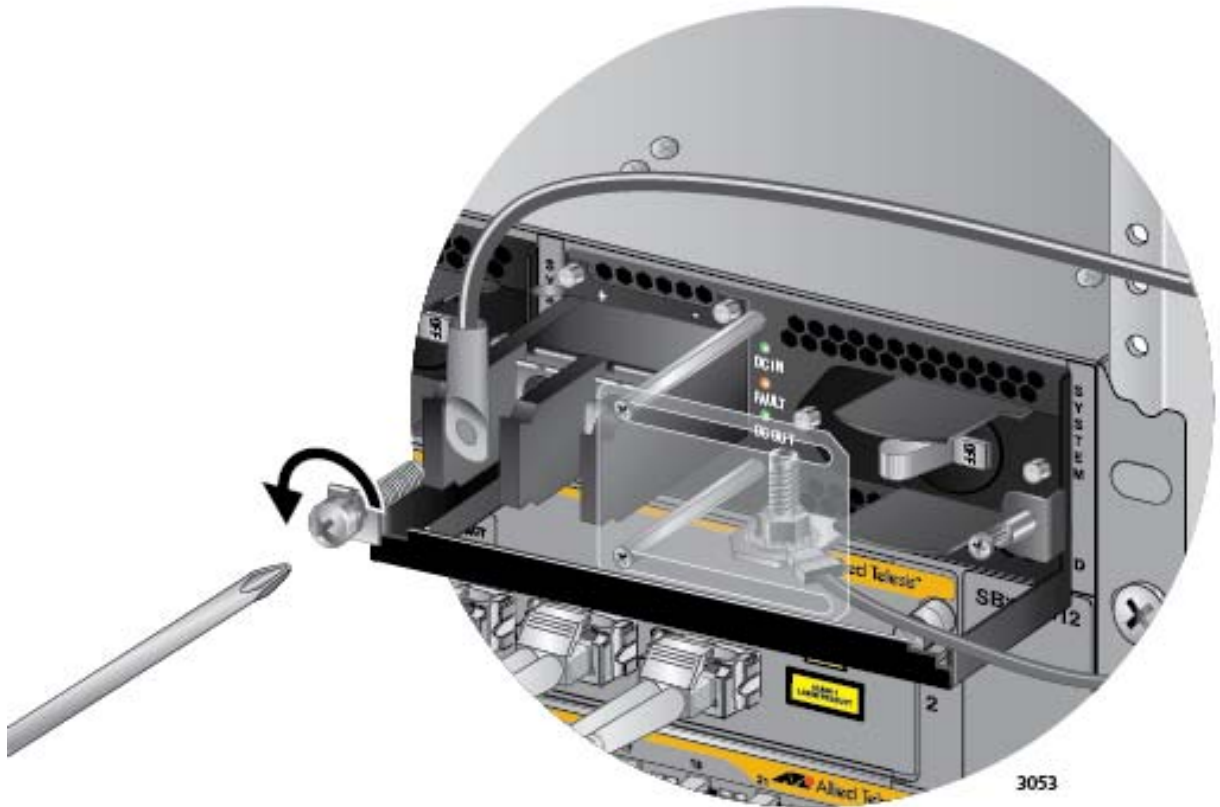

Figure 170. Removing the Positive Lead Wire from the Terminal Block
6. Use a #3 screwdriver to remove the positive (+) lead wire from the terminal block. Refer to Figure 170 on page 279.